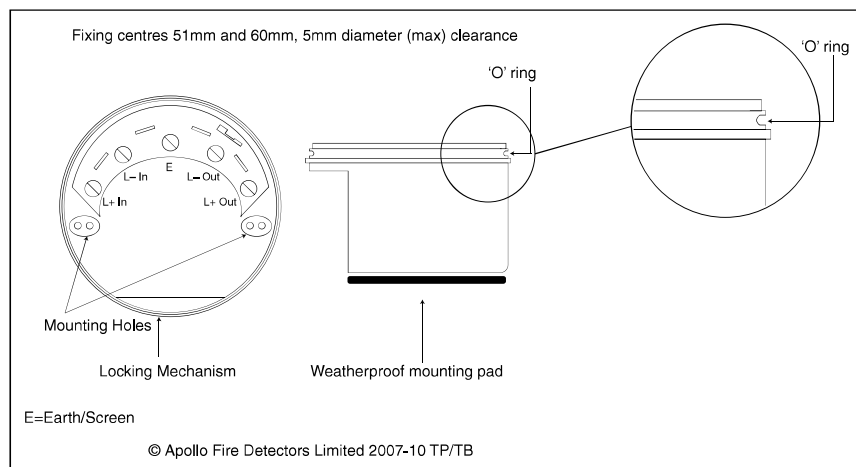

Fig. 4 Base diagram
- Secure the base to the mounting surface with pan-head screws. If IP integrity is required, fit the weatherproof mounting pad between the base and the mounting surface. Fit the 'O' ring to the base (Fig. 4). Attach head to base using a lubricant such as silicone grease if required.
- To lock the sounder in the base, snip the break-out on the base rim (location shown in Fig. 4). Fit the sounder to the base, using the above steps if IP integrity is required.